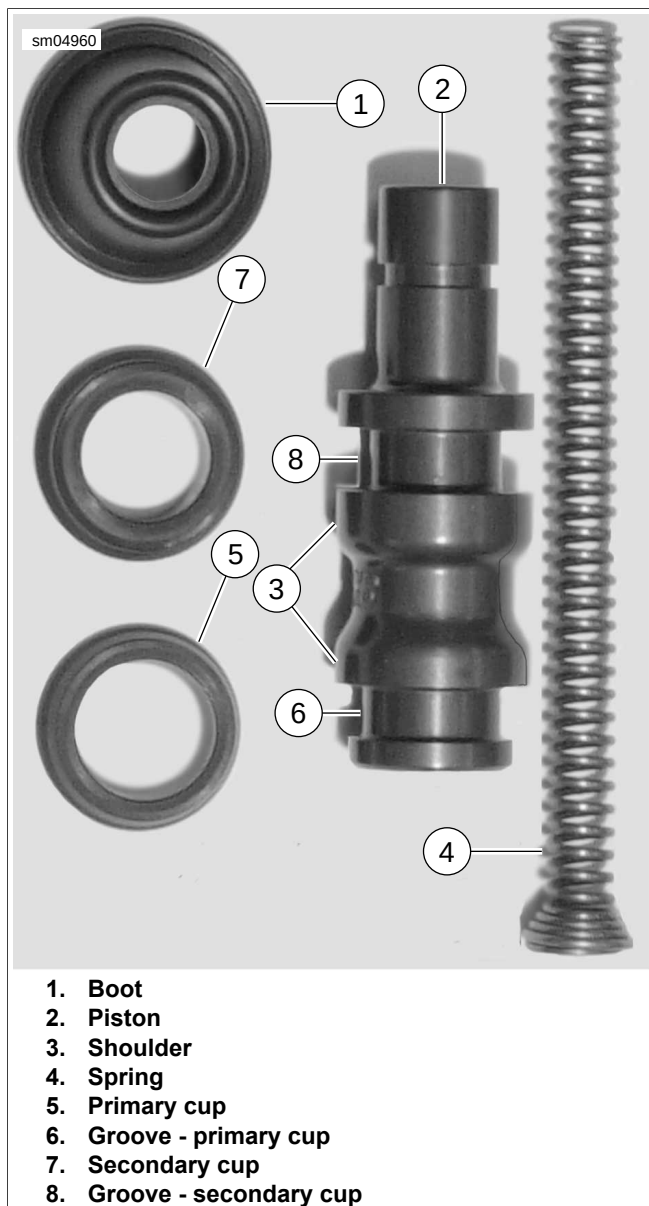

Figure 2-25. Clutch Master Cylinder Components
5. See Figure 2-25. Using a toothpick or small screwdriver, gently pry outer edge of piston boot (1) out of piston bore.
6. Remove piston (2) and spring (4).
1. See Figure 2-25. Lightly lubricate inside of primary cup (5) and fit over lip on spring end of piston (2) so the closed end (small ID) contacts evenly with the shoulder (3) in primary cup groove (6).
2. Lightly lubricate inside of secondary cup (7) (steep taper from center to outside diameter) and fit over the lip on outboard end of piston (2) so that flared end is open toward the shoulder (3) of the secondary cup groove (8).
3. Install boot (1), large sealing ID first, on piston (2) until seal on smaller ID fits snugly into thin groove in piston.
See Figure 2-25. The flared ends of the primary cup and the secondary cup face the spring end of the piston.
5. See Figure 2-25. With tapered end out, install spring (4) into opening on inboard side of piston assembly.